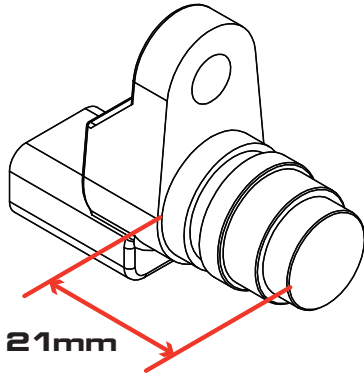

Figure 01
- Check the length of the sensor is ~ 21mm as shown in **Figure 01**